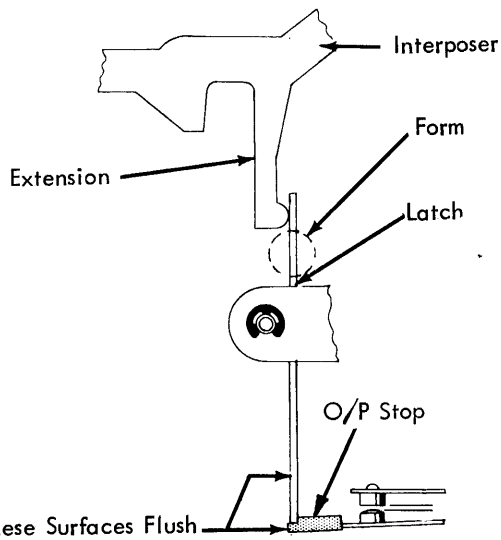

FIGURE 178. Assembly Position (Without Stop)
- 1b. Assembly (without latch stop) Position (Fig. 178) - With the contacts latched, position the assembly (front to rear) for the following inter-related conditions.